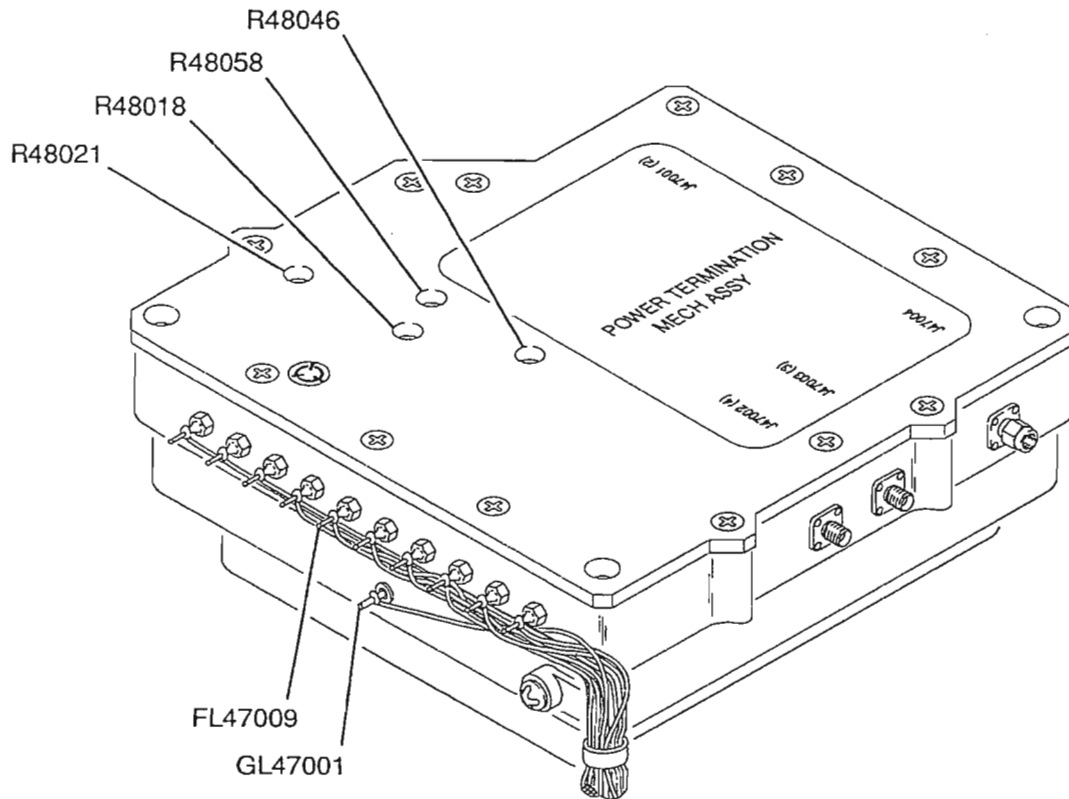

Figure 3-24 Power Term Assembly Calibration Points
FIGURE REFERENCES: Figure 3-24
1.	Connect DMM positive lead to FL47009 and negative lead to GL47001 (Figure 3-24).
2.	Apply power to FM/AM-1600S. Allow 5 minute warm-up period. Insure IFR Logo, with no error message, is displayed on CRT (26).
14. Use DATA ENTRY Keypad (29) to set data field to **150.0000 MHz**. Press ENTER Key.
15. Use FIELD SELECT Keys (1) to move cursor to RF IN. Press ENTER Key to select **T/R**.
16. Use FIELD SELECT Keys (1) to move cursor to PWR. Press ENTER Key to access POWER METER Operation.
18. Use DATA SCROLL Keys (3) to set data field to **20 mW**. Press ENTER Key.
19. Verify 0 V ( $\pm 1.0$  mV) is displayed on DMM. Adjust R48021 (Figure 3-24) if needed.
20. Press ENTER Key to highlight RANGE data field. Use DATA SCROLL Keys (3) to set data field to **20 W**. Press ENTER Key.
21. Verify 0 V ( $\pm 1.0$  mV) is displayed on DMM. Adjust R48018 (Figure 3-24) if needed.
22. Press ENTER Key to highlight RANGE data field. Use DATA SCROLL Keys (3) to set data field to 2 W. Press ENTER Key.
24. Verify 4.00 V (+0 mV, -50 mV) is displayed on DMM and 2.0 W ( $\pm 0.2$  W) is displayed on CRT (26).
33. If detected voltage in step 32 is not within tolerance, alternately adjust R48018 (Figure 3-24) and R48046 (Figure 3-24) until proper level is obtained.